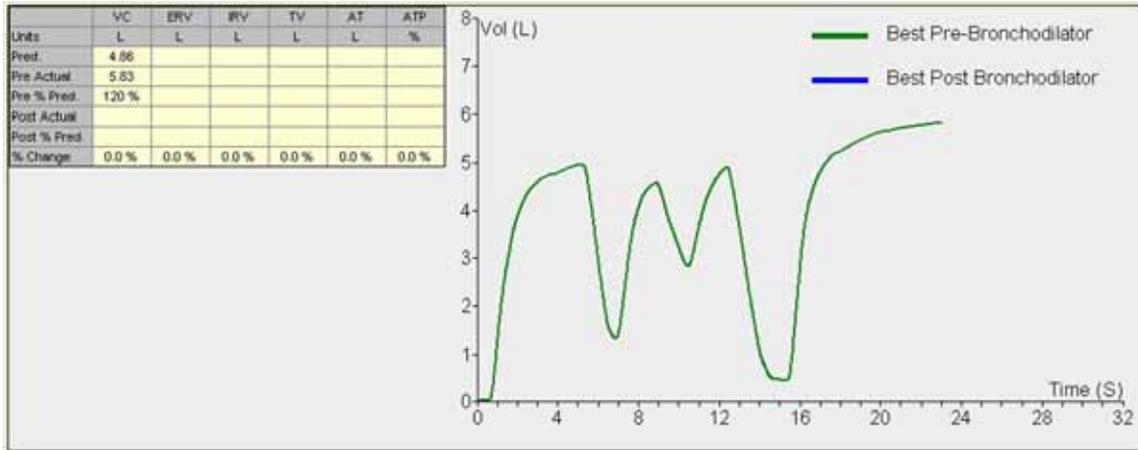

Figure 10
The vital capacity (VC) test measures the full capacity of the lungs measured at slower rates of inhalation and exhalation. The test begins with the patient taking a full breath, exhaling into the mouthpiece, a few tidal breaths (normal breaths), and finally a full inhalation and full exhalation. The final inhalation and exhalation should not be done too slowly, but neither should it be forced. If the test is completed in about 25 seconds or less, all the breaths will be displayed on the graph, as shown in Figure 10.